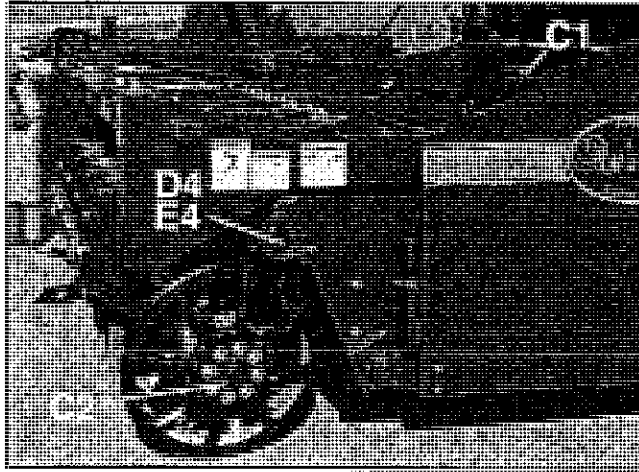

Figure 2.35: Frame and Drives on Front of Tank.
C. Frame and drives in front of tank (See Figure 2.35).
D. Right hand drives. (See Figures 2.35 and 2.36)
- Δ 4. Paddle shaft pillow block bearing (see Figure 2.35).